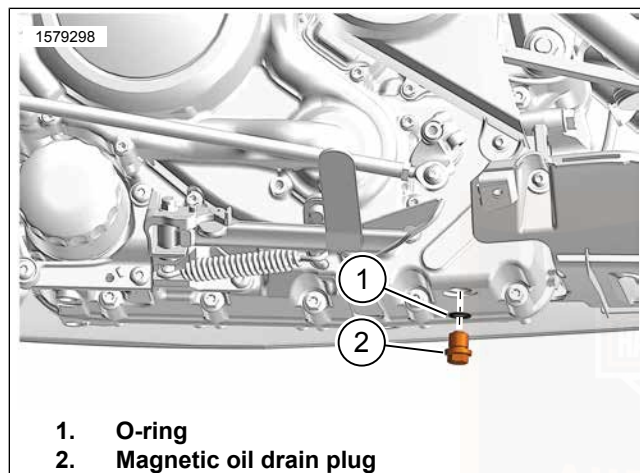
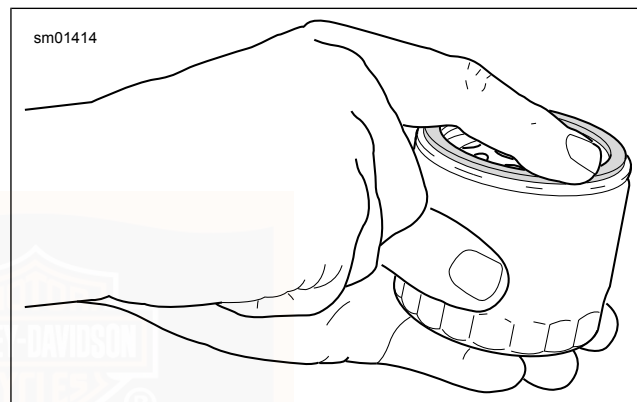

Figure 56. Oil Drain Plug (Typical)
Figure 57. Lubricating New Oil Filter Gasket
5. See Figure 56. Remove magnetic oil drain plug (2). Allow oil to drain completely.
- a. Remove and discard O-ring (1).
9. See Figure 57. Install **new** oil filter.
10. Install **new** O-ring (1).
11. Install magnetic oil drain plug (5). Tighten.